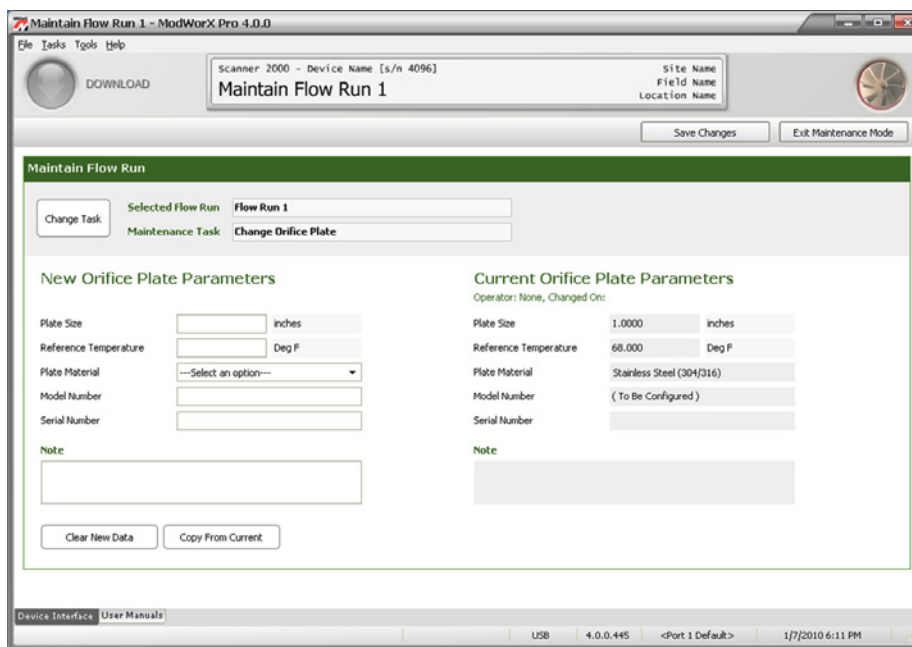
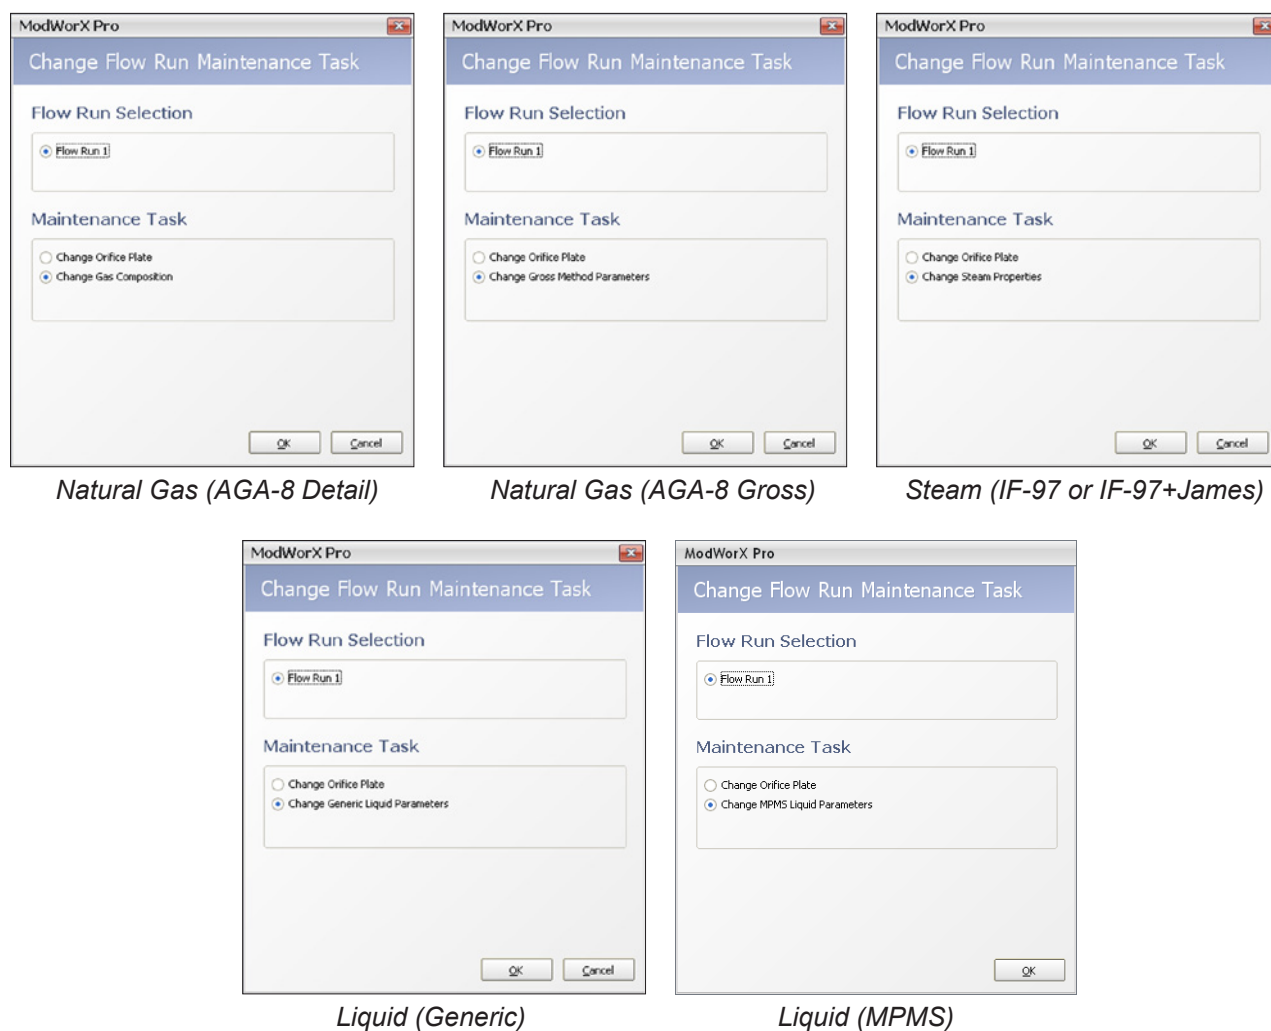

Figure 9.3
Figure 9.4
- Click **OK** to save the selections. The Maintain Flow Run screen will appear (Figure 9.3, page 125).
1. If Change Orifice Plate is not displayed in the Maintenance Task field at the top of the Maintain Flow Run screen, click on **Change Task** (Figure 9.3, page 125). The Change Flow Run Maintenance Task dialog will appear. The selections available on this screen will vary, depending on the fluid property calculation method selected, as shown in Figure 9.4, page 126.